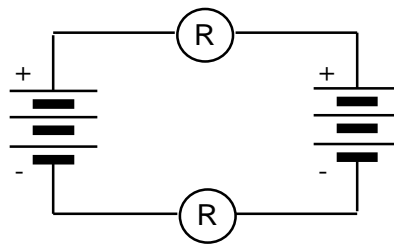

Figure 4.1d
3. Draw arrowtails and starbursts on Figure 4.1d. How does the flow rate and bulb brightness differ from the previous two circuits?